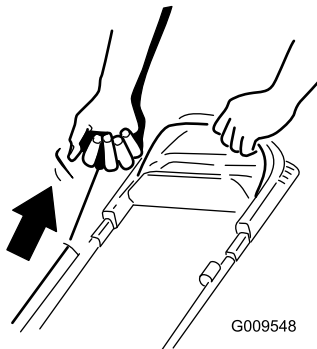

Figure 17
2. Pull the recoil-start handle (Figure 17) lightly until you feel resistance, then pull it sharply, and allow it to return to the rope guide on the handle slowly.